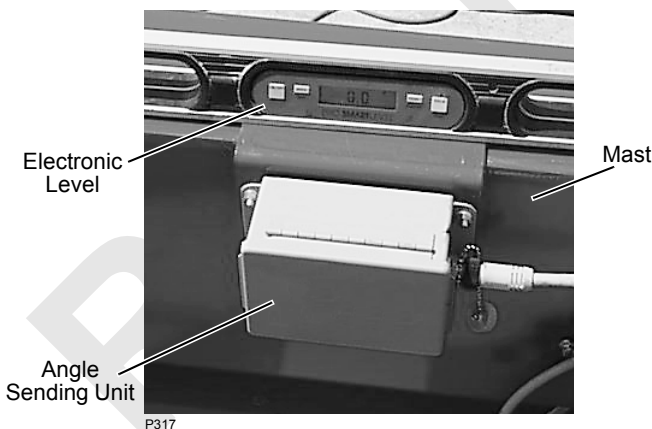
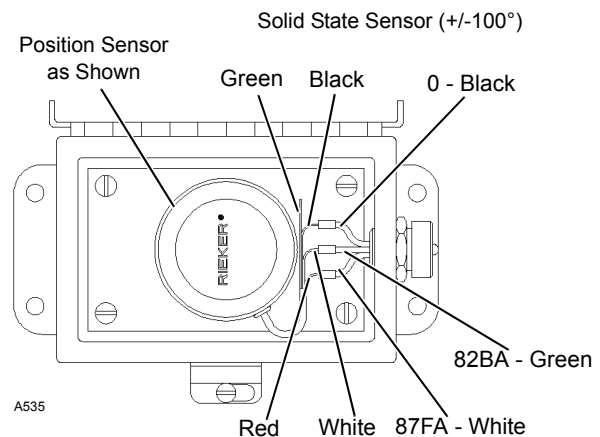

FIGURE 4-5
FIGURE 4-6
The mast angle sending unit (Figure 4-5) houses a sensor (Figure 4-6) which sends an electric signal to the crane's programmable controller. The programmable controller converts the electric signal into an angle which can be monitored on the digital display in the operator's cab and used to control mast operation within the limits given in Table 4-2.
3. Place an electronic level on mast (Figure 4-5).